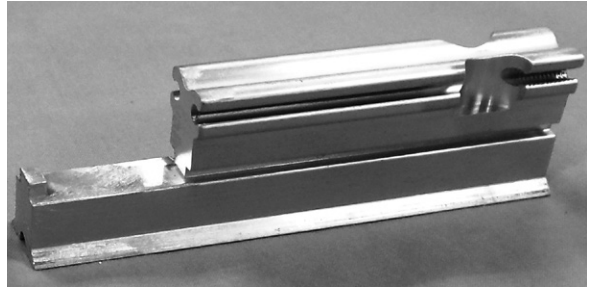
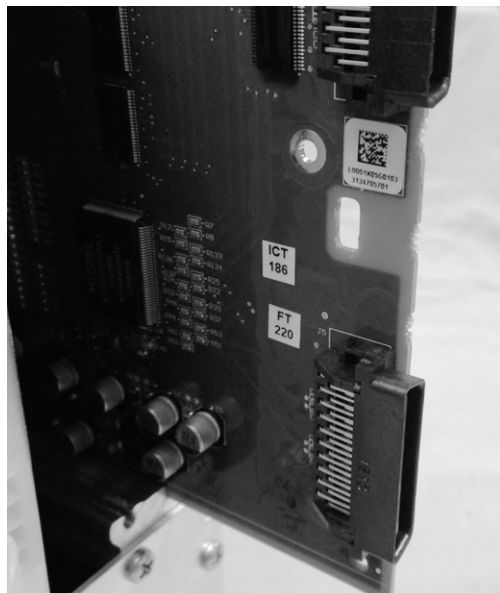

Figure 4. Support bar nib
Figure 5. Hole in the base circuit board
4. Locate the nib on the aluminum support bar (Figure 4) and the hole in the base circuit board (Figure 5).